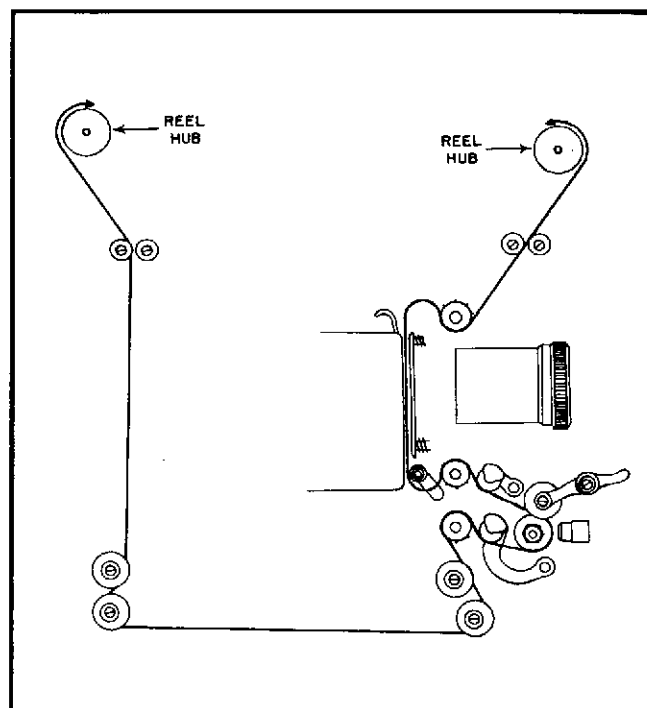

Figure 1-20. Projector Film Threading Diagram
j. Rotate the take-up reel in a clockwise direction until the film slack has been taken up. This completes the threading of the projector. The complete projector film threading path is shown in figure 1-20 in diagram form.